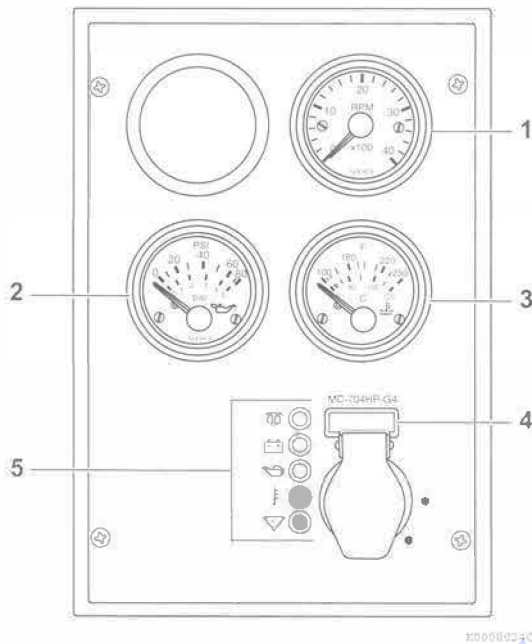
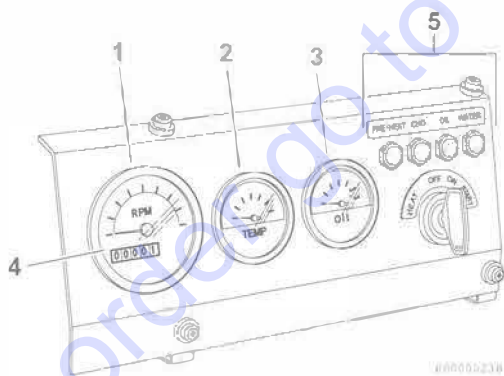

Figure 5
Figure 6
1. While the engine is running, check the gauges for normal indications. The gauges shown in **Figure 6** and **Figure 5** are provided for illustrative purposes only.
- **Tachometer**(1, **Figure 5**) or (1, **Figure 6**) - Make sure the engine speed is within normal limits.
- **Engine oil pressure** (2, **Figure 5**) or (3, **Figure 6**) - Make sure the engine oil pressure is within normal limits. See *Principal Engine Specifications* on page 108.
- **Engine coolant temperature** (3, **Figure 5**) or (2, **Figure 6**) - Make sure the engine coolant temperature is within normal limits.
- **Hour meter** - The hour meter display (4, **Figure 5**) or (4, **Figure 6**) shows the total number of hours the engine has run. This is useful for planning periodic maintenance operations. See *Periodic Maintenance Schedule* on page 68.
2. After the engine has reached operating temperature, all of the indicators (5, **Figure 5**) or (5, **Figure 6**) should be off. If any of the indicators are on, shut down the engine and have the necessary repairs performed.